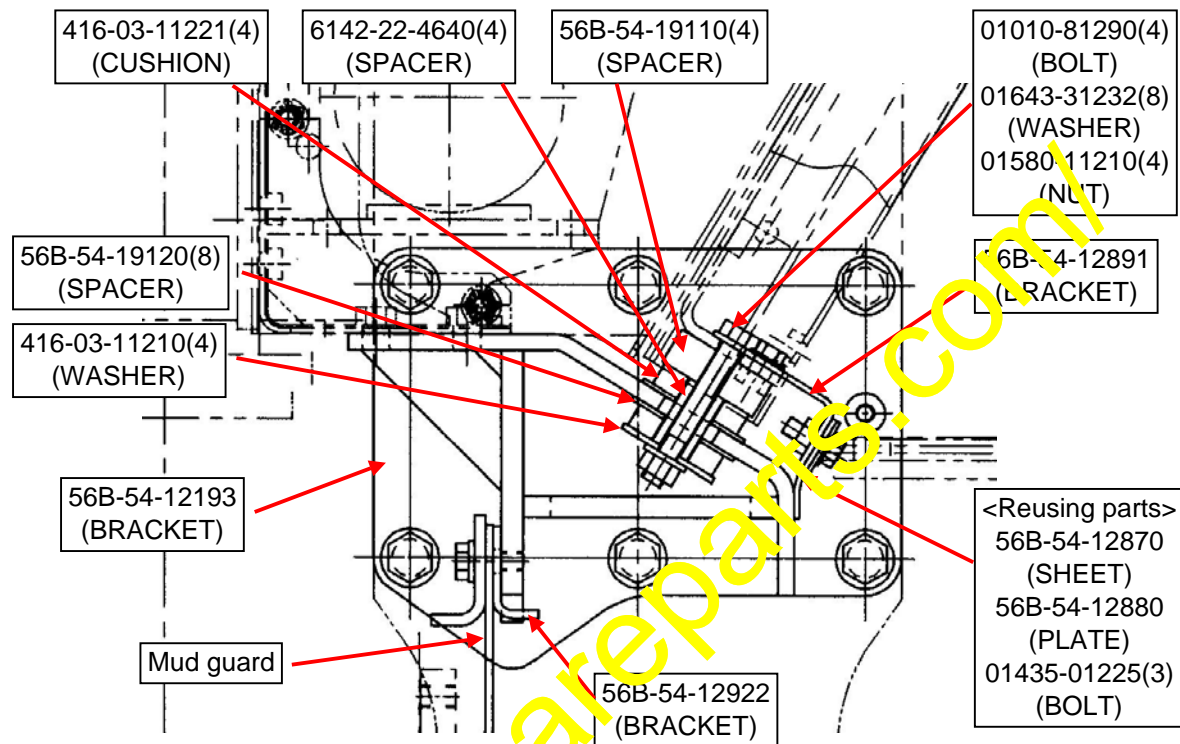

Fig. 11
- 4-1. Install the improved fender support. (Refer to Fig. 11.)
- 4-2. Install the fender mount section. (Refer to Fig. 11.)
- 4-3. Install the accumulator bracket to the fender support. (Refer to Fig. 11.)
- 4-4. Install the cover of the fender mount section. (Refer to Fig. 11.)
- 4-5. Install the mud guard. (Refer to Fig. 11.)